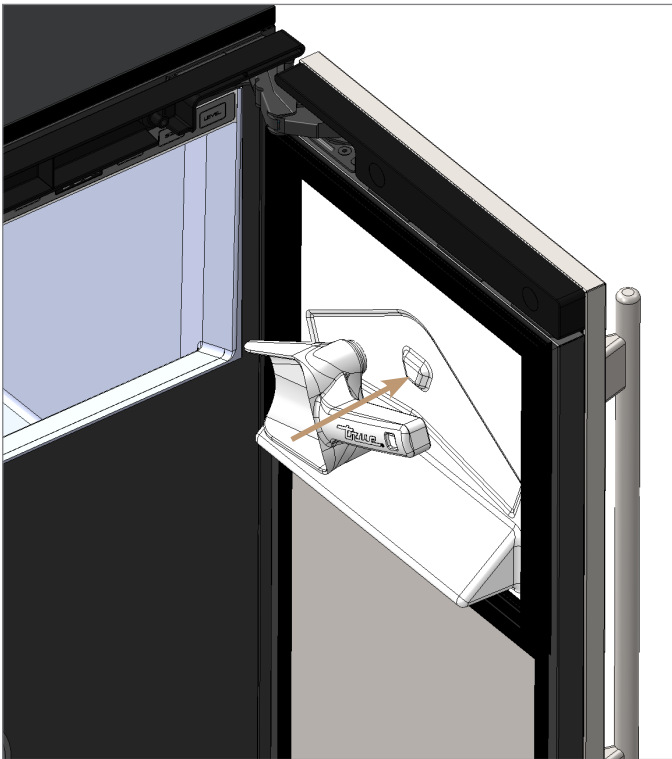

FIG. 1. Attach the ice scoop to the door.
3. Position the ice scoop on the door's interior. See fig. 1.